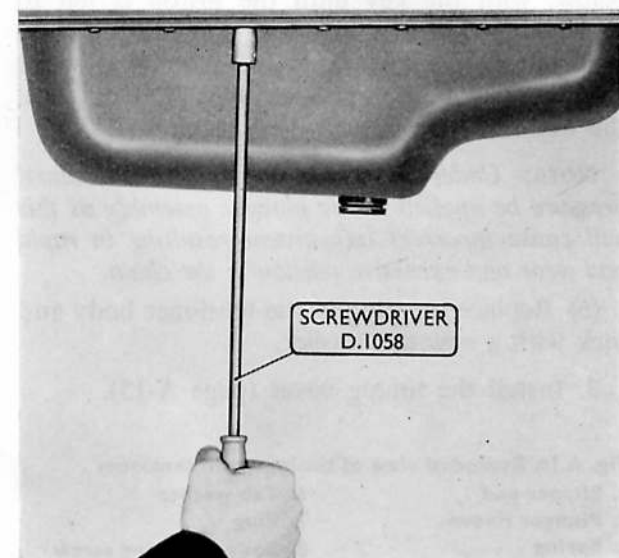

Fig. A.20. Removing oil pan screws
7. Remove the attaching screws (Fig. A.20) and lower the oil pan. Tilt the left-hand side downwards to clear the oil pump and pipes, then move the pan towards the right-hand side and withdraw it rearwards. Remove the gasket.